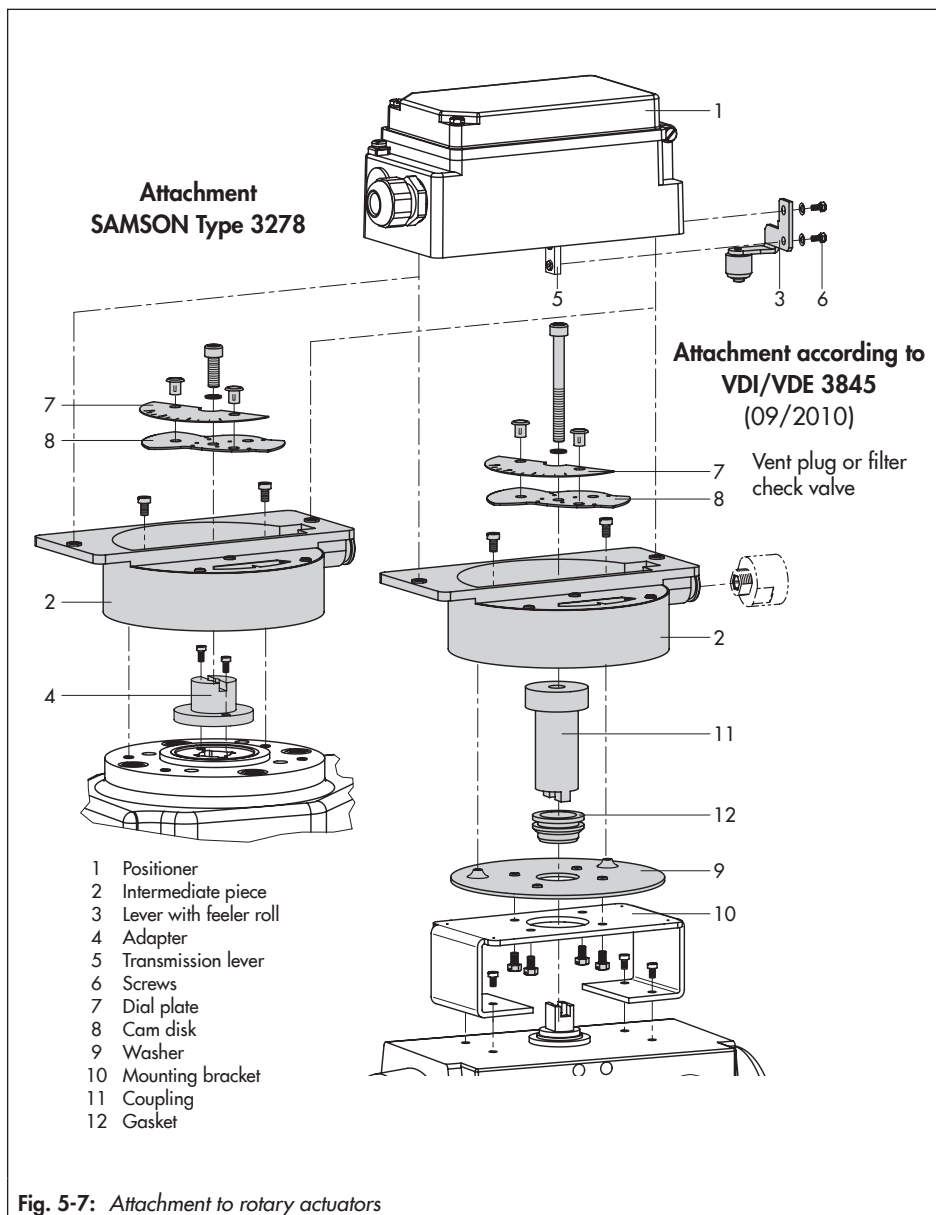

Fig. 5-7: Attachment to rotary actuators
- See Fig. 5-7
When attaching the positioner to the SAMSON Type 3278 Rotary Actuator (Fig. 5-7, left), the inside of the actuator and the unused reverse side of the diaphragm are purged with the positioner's exhaust air. Additional piping is not required.